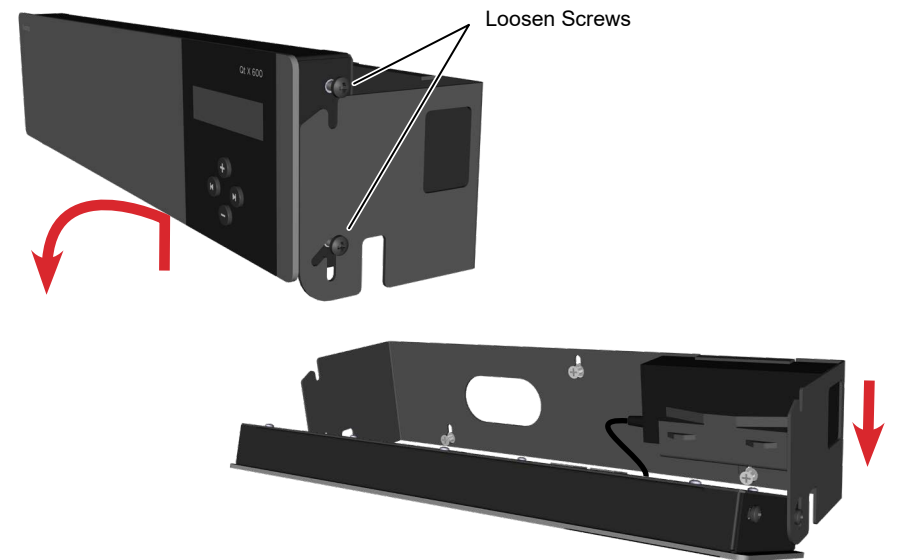

Figure 3. Mount unit / wall bracket
1. Place the wall mount where it is to be mounted and mark the hole locations. The control module hinges forward for wall mounting and cable installation. To hinge forward, loosen the screws on both sides, lift it up to disengage the top screws, and rotate forward as shown (Figure 3).